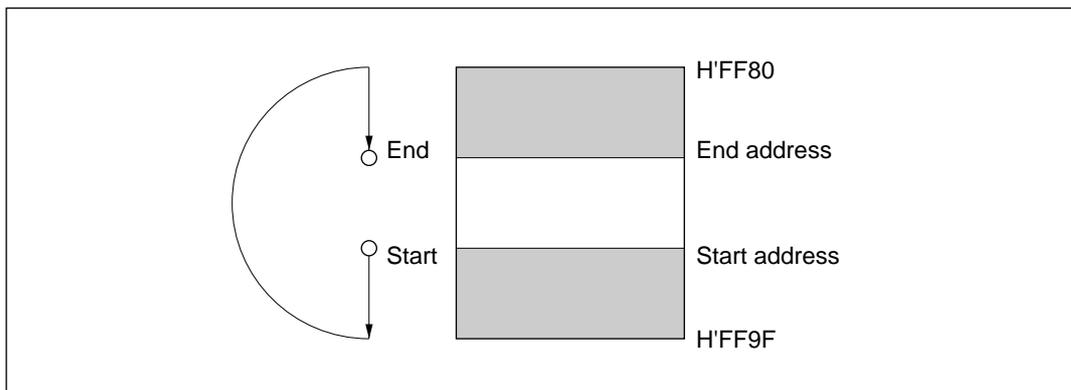

Figure 10-3-4 Operation When End Address is Smaller than Start Address
3. The start and end addresses of the transfer data area are set in STAR and EDAR. If the end address is set smaller than the start address, as shown in figure 10-3-4, the transfer wraps around from H'FF9F to H'FF80 and continues to the end address. If the start address and end address are the same, only one byte of data will be transferred.